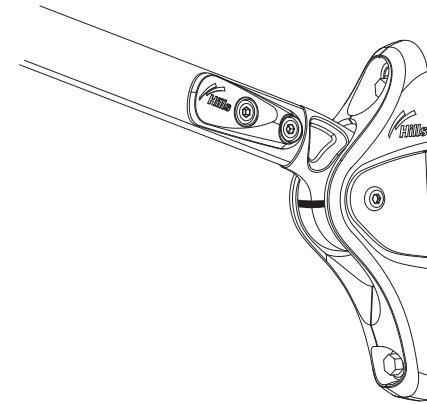

Fig.11
- 4.2 To lower the clothesline grip the frame in the middle and raise slightly above your head until you hear both folding brackets 'click' and the folding bracket indicators are in the unlocked position. (Figure 11)